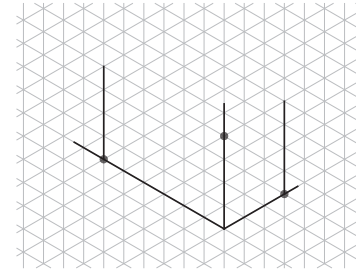

Figure 3-12. Add two more vertical lines to represent the visible vertical edges of the box.
4. Draw the left and right vertical edges of the box, as shown in **Figure 3-12**.